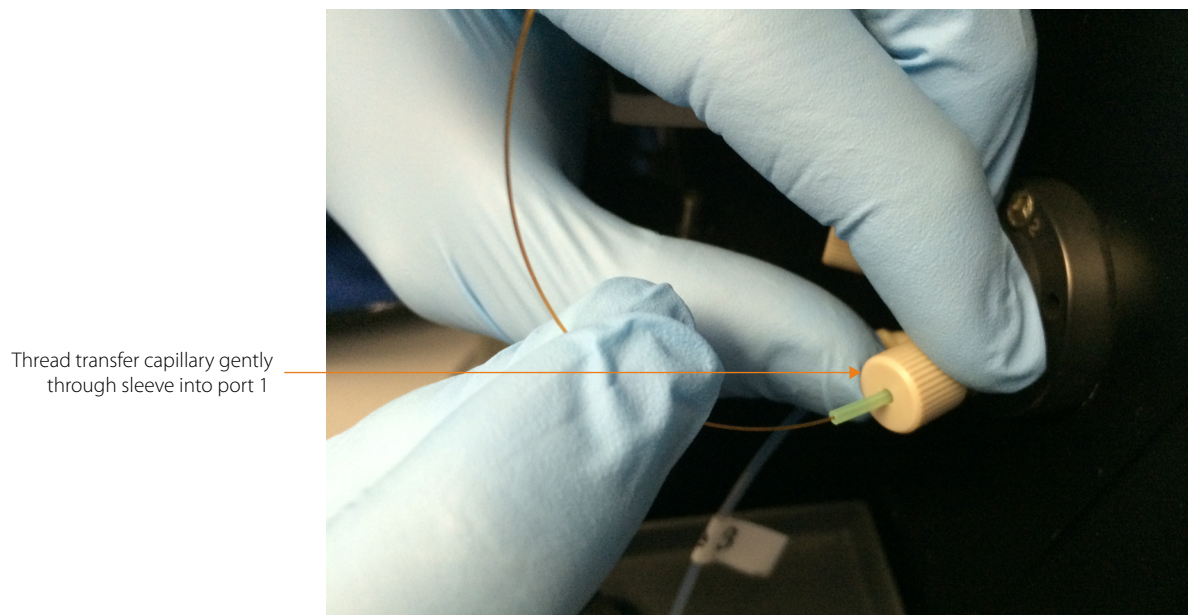

Figure 4-27: Transfer capillary installation.
13. Thread the transfer capillary through the transfer line sleeve fitting (green sleeve) into port 1 of the iCE valve until it reaches a hard stop (Figure 4-27).